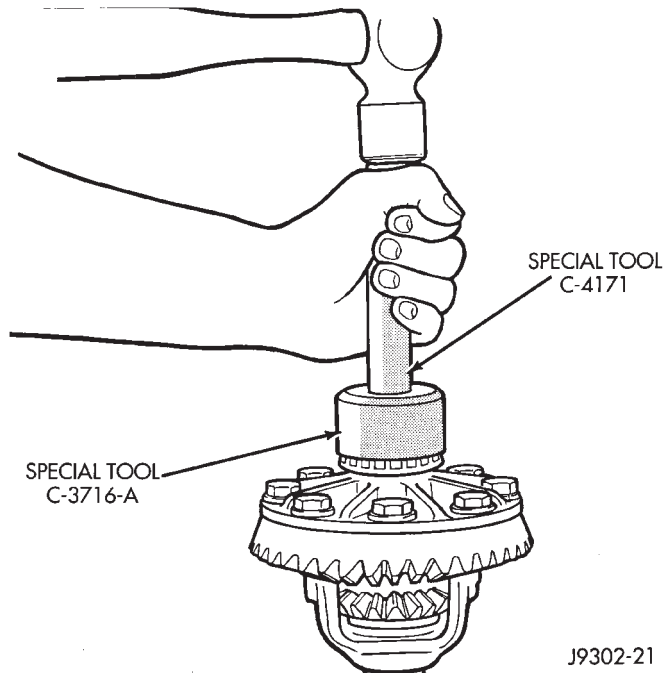

Fig. 32 Differential Side Bearing Installation
- (1) Install differential side bearing shims onto differential case hubs.
- (2) Using Installer C-3716-A and Handle C-4171, install differential side bearings (Fig. 32).
- (3) Install differential in axle housing.